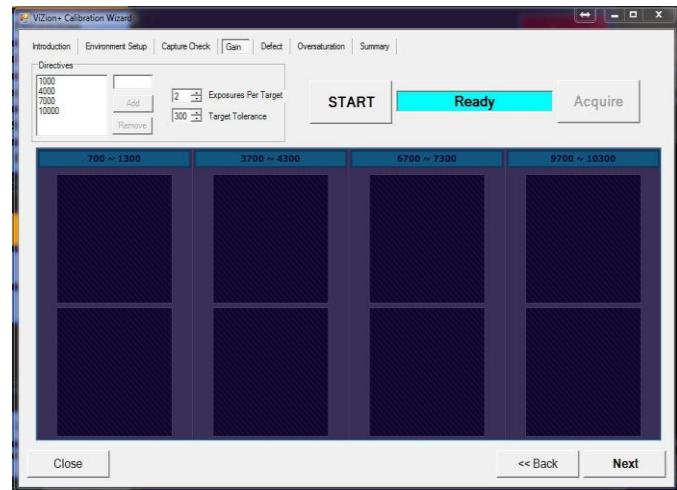

Figure 28: Gain Tab
- OpalUAI v2.3.4.21 Remove 500 and 2000 from the directives fields, adjust exposures to 2 Exposures per Target, and adjust Target Tolerance to 300 Target Tolerance. Select START and fire tube head within all targeted fields. Figure 28
- OpalUAI v2.3.4.22+ Removal of the 500 and 2000 fields have already been adjusted, as well as the Target Tolerance, Select START and fire tube head within all targeted fields. Figure 28